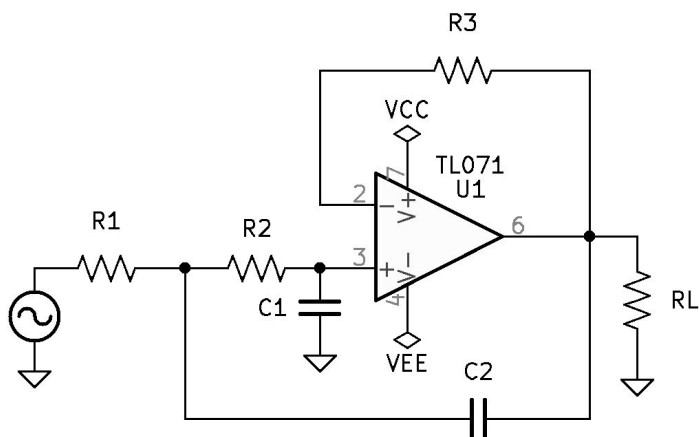

Figure 8.6: Low-Pass Second-Order Active Filtering Circuit.
1. See Figure 8.6 *Low-Pass Second-Order Active Filtering Circuit* on page 84.